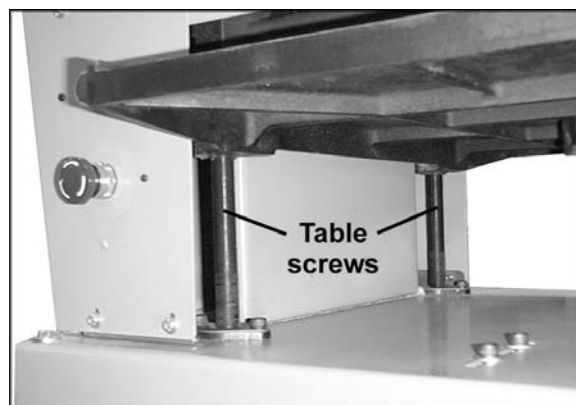

Figure 42
3. When using the planer/molder in a high humidity area, the four corner screws, shown in Figure 42, should be coated with grease or a rust-preventative.